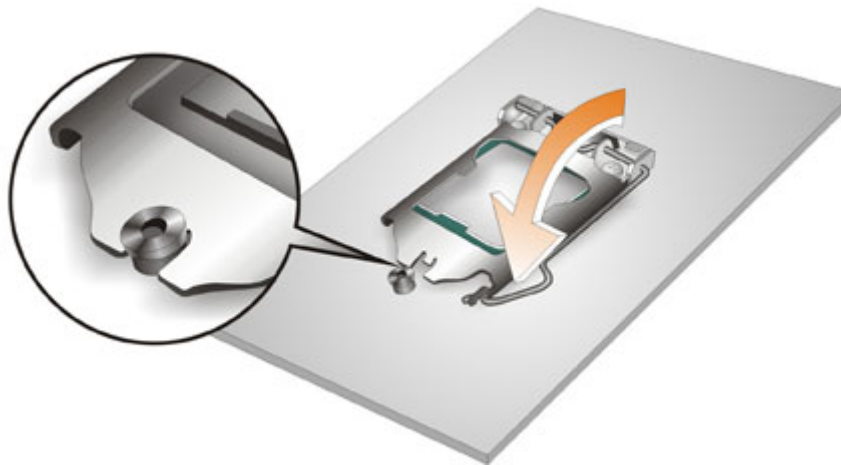

Figure 4-4: Close the Socket LGA1151
Step 8: Close the CPU socket. Close the load plate and pull the load lever back a little to have the load plate be able to secure to the knob. Engage the load lever by pushing it back to its original position (**Figure 4-4**). There will be some resistance, but will not require extreme pressure.